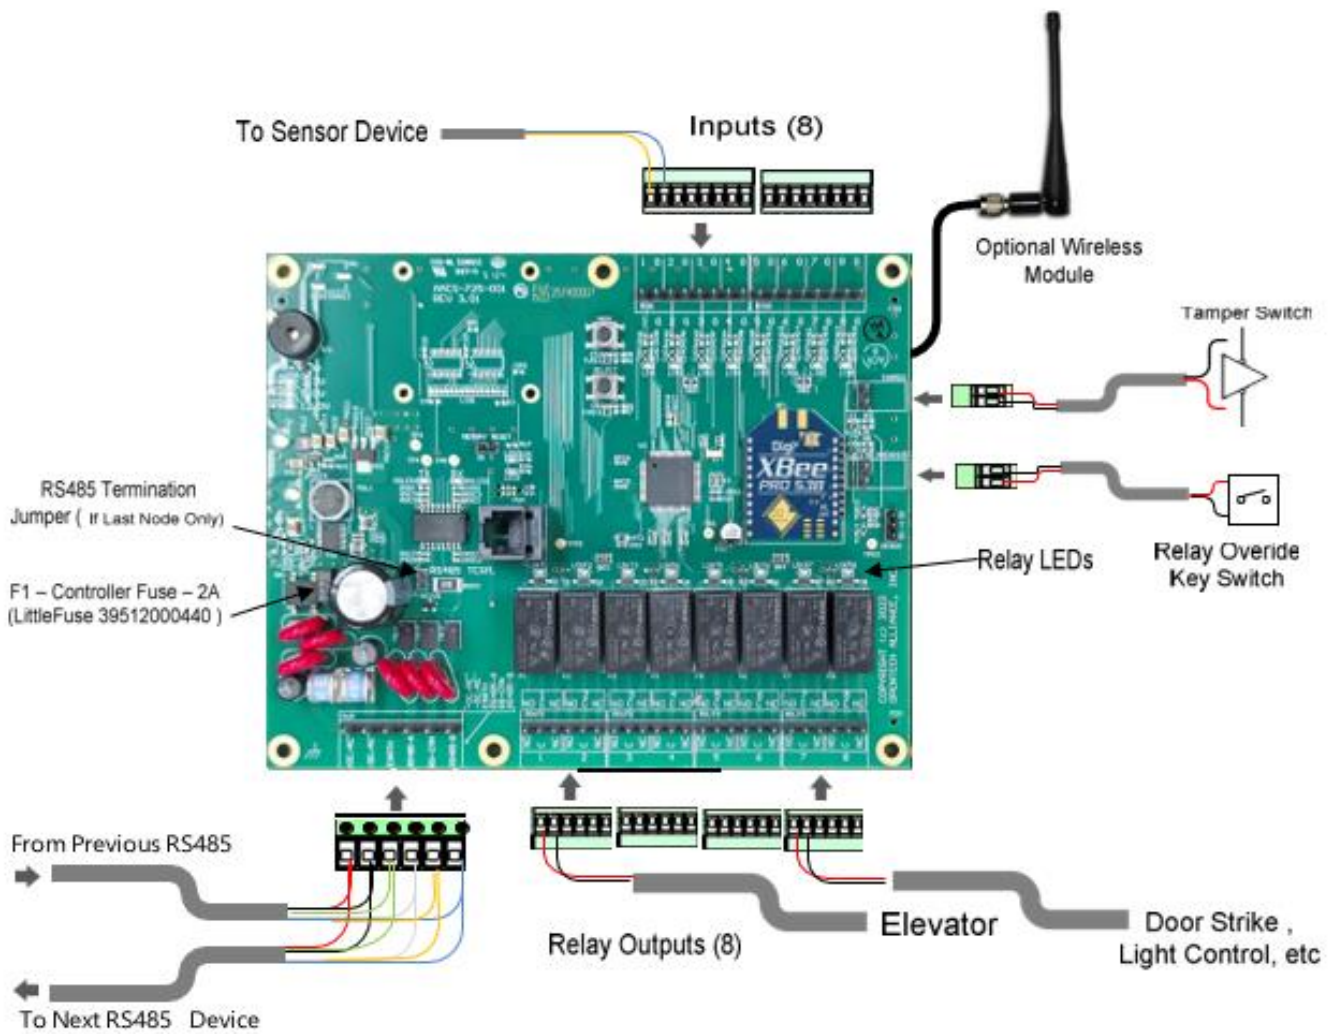

Figure 3
**Figure 3** is a connection diagram for the Relay Printed Circuit Board (PCB). All cables entering the gateway must be insulated and shielded with drain wires connected to earth ground at one end. In addition, incoming cables other than the RS485 cables must be less than 10 meters long. The R485 wires should be 18 gauge. Other wires must be between 16 and 26 gauge. An 18g 6 Conductor shielded cable is recommended for RS485 data & power.